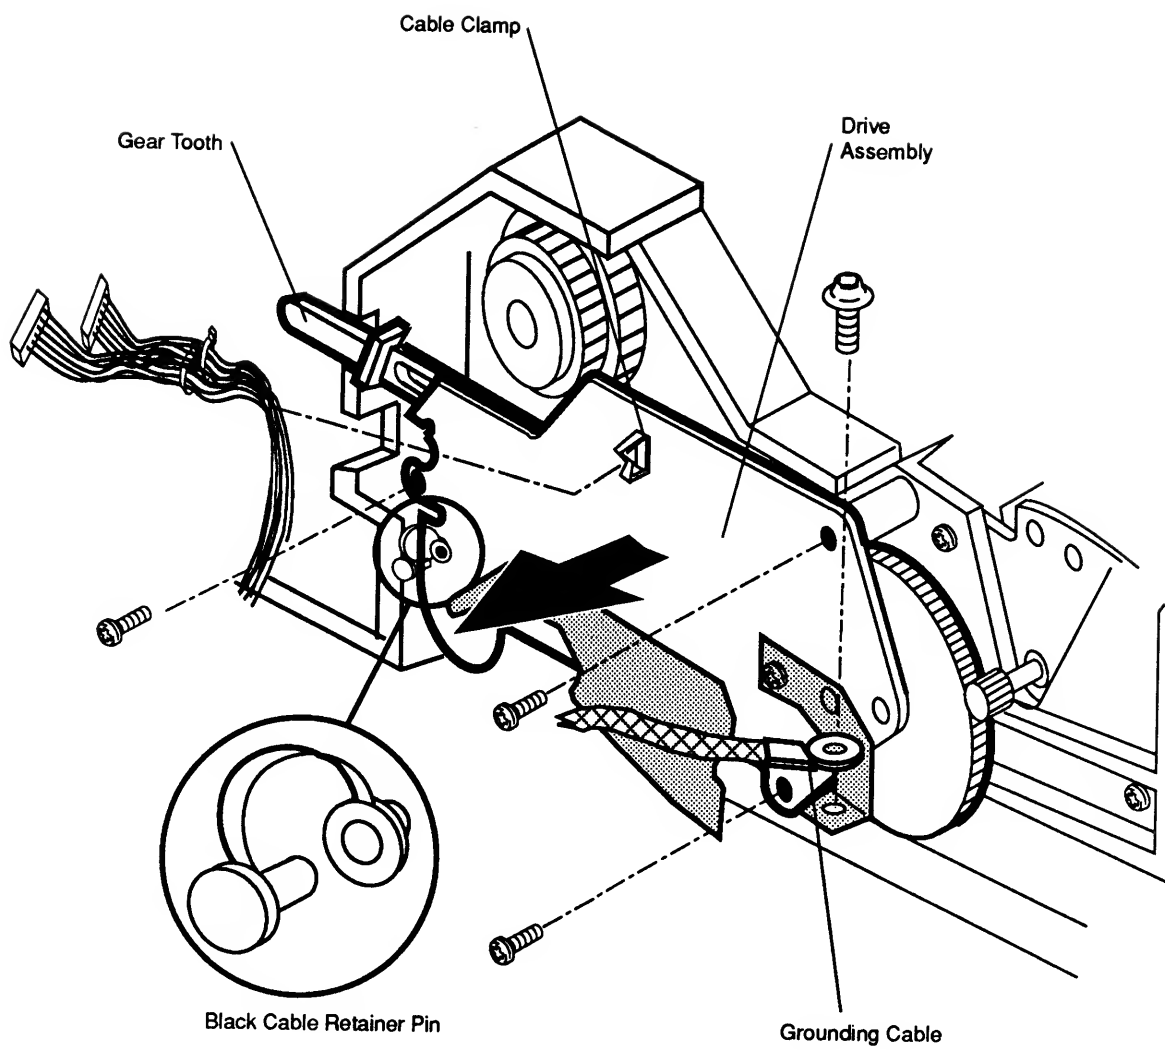

Figure 2-38 Drive Assembly
3. Using needlenose pliers, pull out the black cable retainer pin that holds the connector cables to the drive assembly (**Figure 2-38**).
4. Remove the silver-colored screw that secures the silver-colored grounding cable to the printer chassis (**Figure 2-38**).
5. Remove all cables from the cable clamp located on the side of the drive assembly (**Figure 2-38**).
6. Remove the three silver-colored screws that hold the drive assembly in place, and remove the drive assembly (**Figure 2-38**).